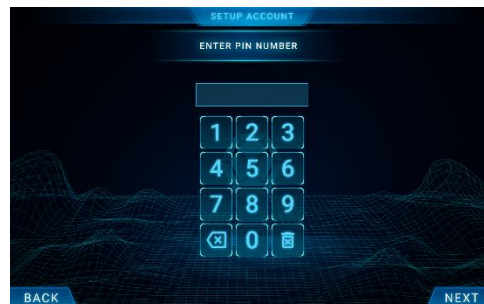

Fig. 9
9. Enter your pin number, remember the pin number (Fig. 9).